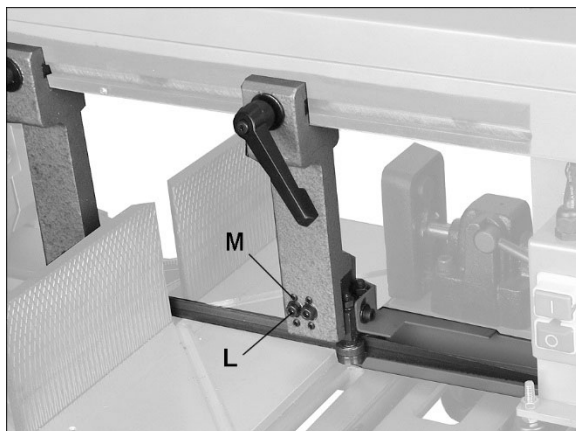

Figure 7-9: squareness adjustment
Refer to Figure 7-9.
4. If a gap exists, slightly loosen socket head bolts (L, Figure 7-9) behind blade guide arms. Turn any of four set screws (M) as needed, until gap is eliminated between square and blade.
5. Retighten bolts (L) securely.